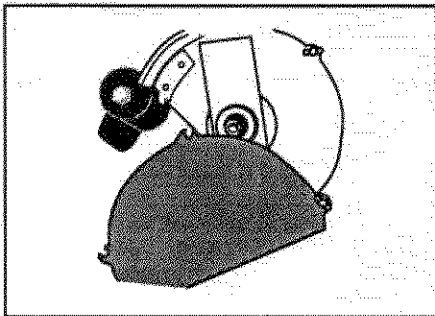

Fig. 9
1. To clean or replace the blade, with engine/motor turned off, loosen the 2 wing screws and the swivel cover (Fig. 9).